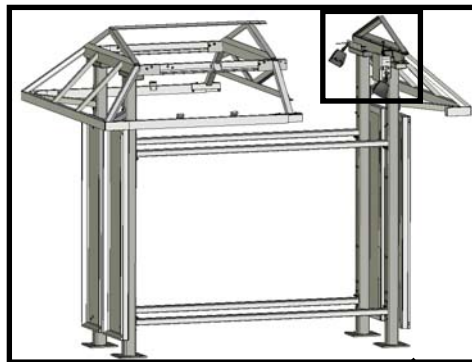

Figure 34
c) Plug the connectors into the truss wiring harness as shown in Figures 34 and 35.